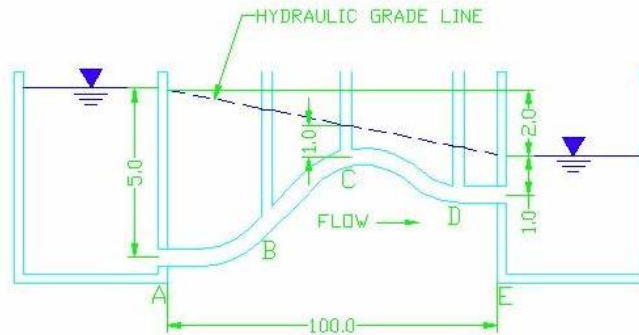

Figure 3.2 Hydraulic grade line for flowing pipe
- Static Head:** The difference in elevation between the HGL at the endpoints of the system is the static head. In the example of Figure 3.2, the static head is 2.0 ft. If the HGL is higher at the upstream end of the system, water will flow by gravity. This is the same principle as the potential energy discussed under open channel flow.